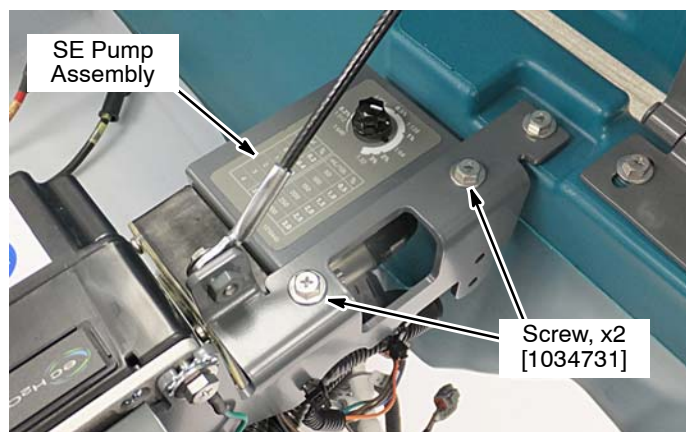

Fig. 30
6. Mount the SE pump assembly to the machine frame using hardware as shown (Figure 30).